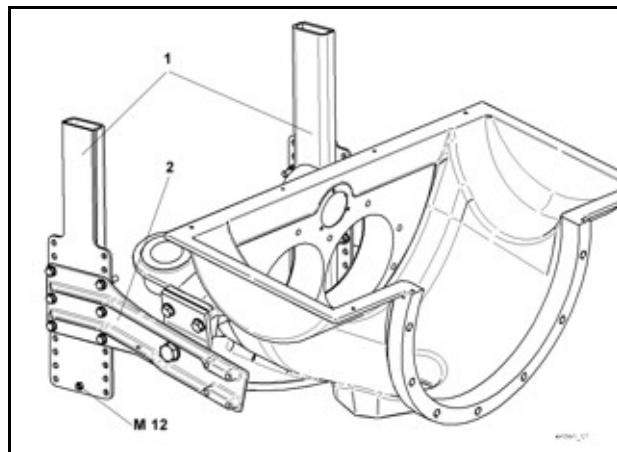

Fig. 55 Rock valve support
A stainless steel screw M12 with nut is pre-installed for the earthing connection on one of the two vertical spars (1) (**Fig. 55**) on the rock valve support (screw inside, nut outside).